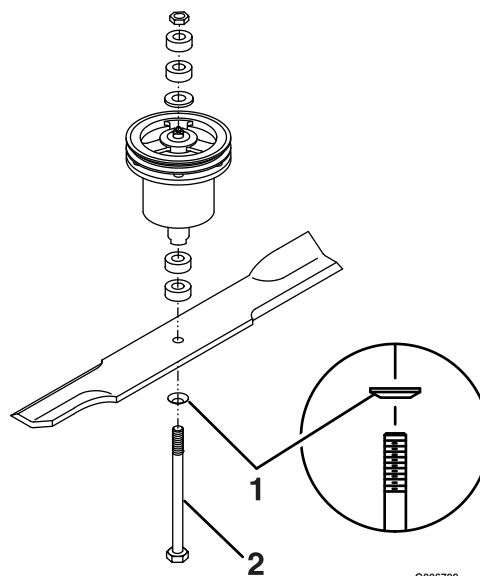

Figure 8
4. Re-install the blades (if they were removed) and torque blade bolts to 75-80 ft-lb (102-109 N-m). Be sure the spring disc washer cone is installed toward the bolt head (see Figure 8).